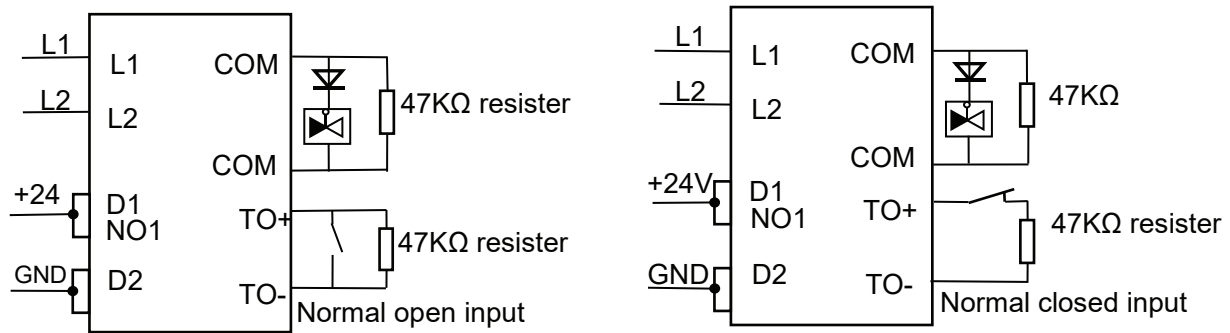

Fig 3. Wiring method of Voltage Output
- 3) The ends of input and output circuit should correctly use a 47K Ω resistor (shown in Fig. 3), so that the Addressable I/O Module can identify the short-circuit fault or open-circuit fault of the input and the output circuit.
- 4) For voltage output, NO1 and NO2 should be connected with DC24V positive and DC24V negative respectively, and a 1N4007 diode should be in series between COM1 and COM2 then connected with the controlled equipment. The details of the wiring method is shown in Fig. 3.
4. Conduct correct wiring as instructed in Fig.3 or Fig.4.